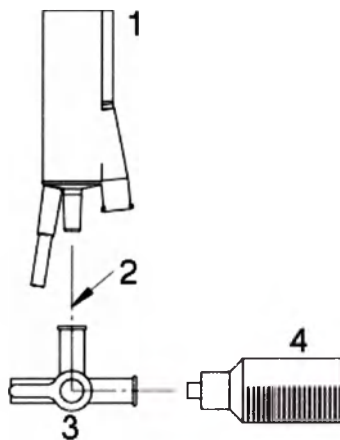
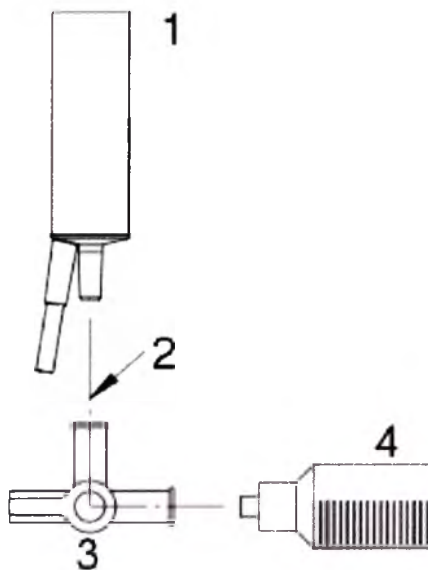

Figure 5.6. **Flushing Aspiration Lumen (Ultrasound Handpiece).**
Figure 5.7. **Flushing Aspiration Lumen (Fragmentation Handpiece).**
D. Flush the aspiration lumen as follows (see Figure 5.6 and Figure 5.7 below):